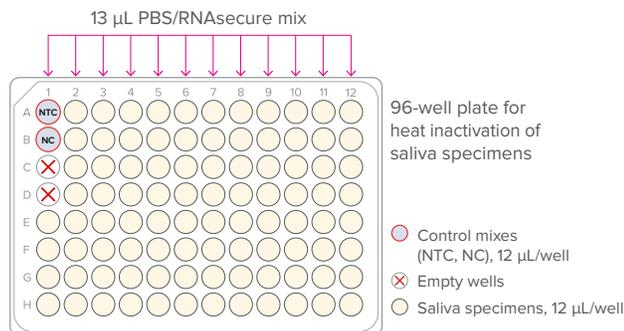

Figure 1. Heat-inactivation plate
□ 3 Add 12 μL of each saliva specimen to the remaining wells containing PBS/RNAsecure mix, as shown in Figure 1.